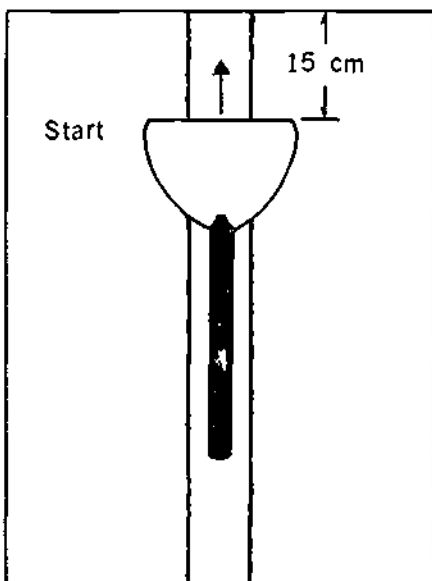

Figure 4-27
1. With the normal grip on the knife place the knife about 15 cm from the ceiling (Figure 4-27).